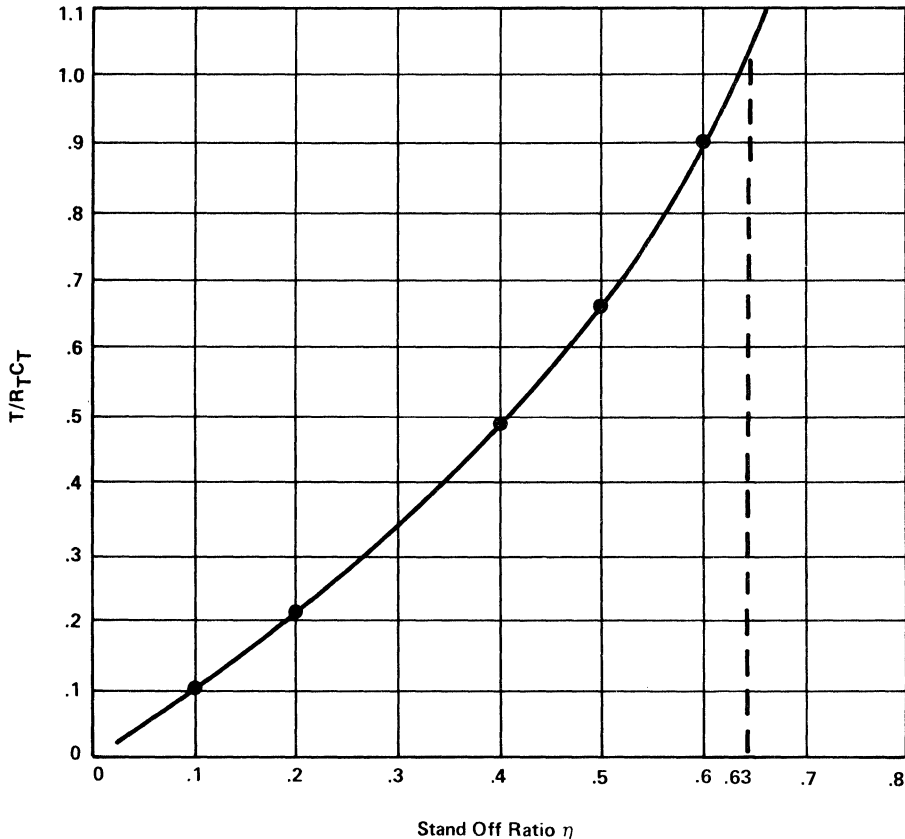

Fig. 9
Step 2 From Fig. 9 with T given as 0.001 sec and η of 0.63. $R_t C_t = 0.001$, $T/R_t C_t = 1$ @ $\eta = 0.63$.